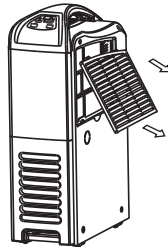

Fig. 10a
- First remove the washable nylon air filter (Fig. 10a)